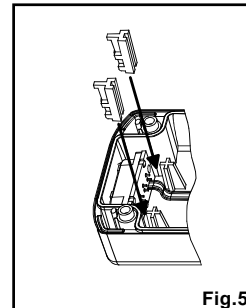
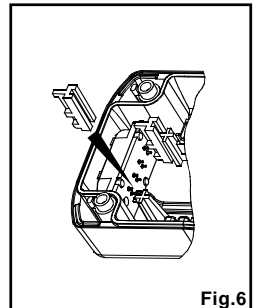

Fig.5
Fig.6
- 7- While applying pressure using a flat angled plier, insert the two pins in the housing ribs observing the mounting direction (see fig.5); the pin locators should clip into the holes in the circuit (see fig.6).